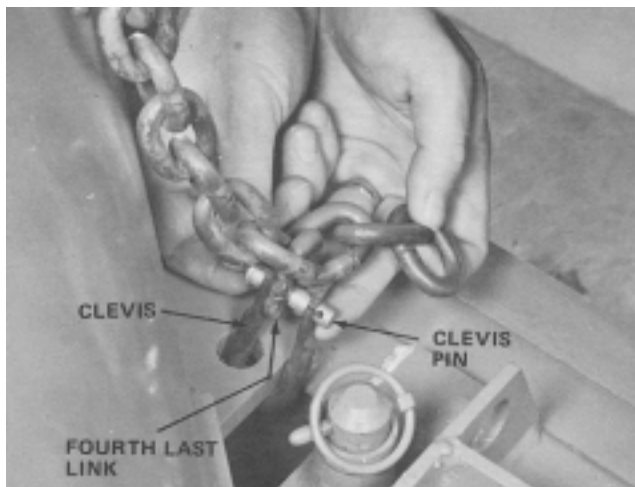

Figure 9
6. Slide clevis through hole in right side plow support. Next, secure forth last link of right side lift chain to clevis with clevis pin and cotter pin (Fig. 9).